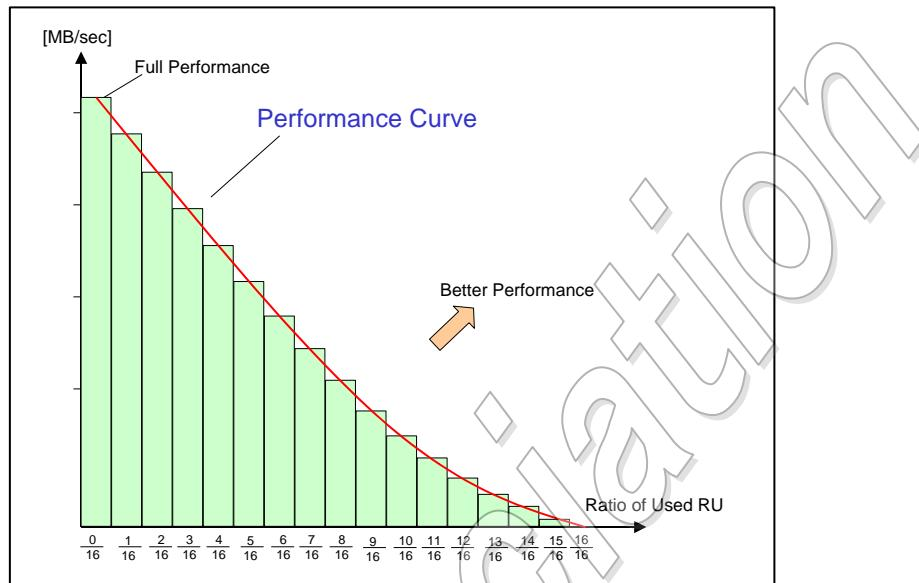

Figure 4-49 : Card Performances between 16 RUs
Figure 4-49 shows the write performance bar chart of $P(N_u)$ of equitation (1). An AU consists of 16 RUs in this example. Joining the points of each bar shows the performance curve, which can be determined from the two parameters, P_w and P_m .